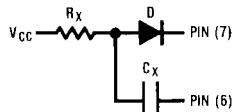

FIGURE 1.
2. When an electrolytic capacitor is used for  $C_X$  a switching diode is often required for standard TTL one-shots to prevent high inverse leakage current (Figure 1). However, its use in general is not recommended with retriggerable operation.